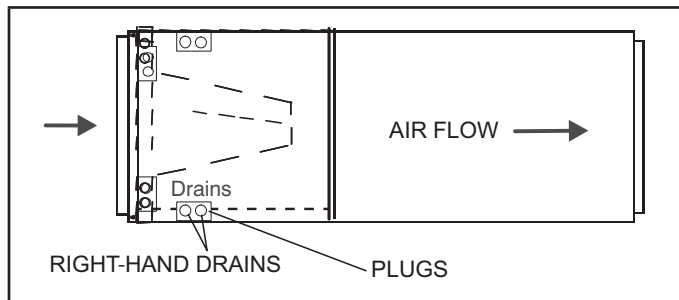

FIGURE 16. Right-Hand Discharge Configuration
- 4 - The horizontal configuration is shown in figure 16.